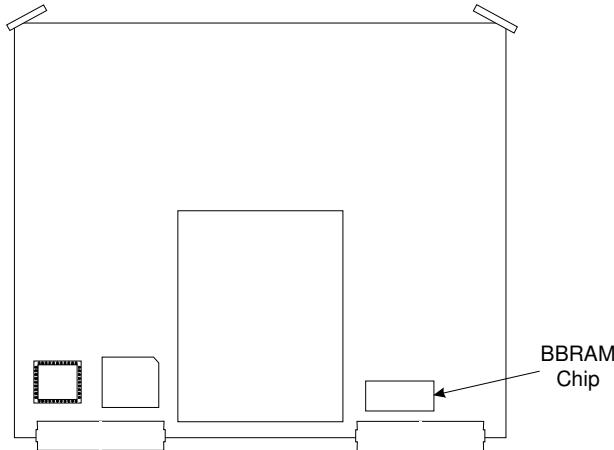

Figure 8-3. Location of BBRAM Chip on the A9 PCB
- Step 3. Locate and remove the BBRAM chip from the A9 PCB. See Figure 8-3.